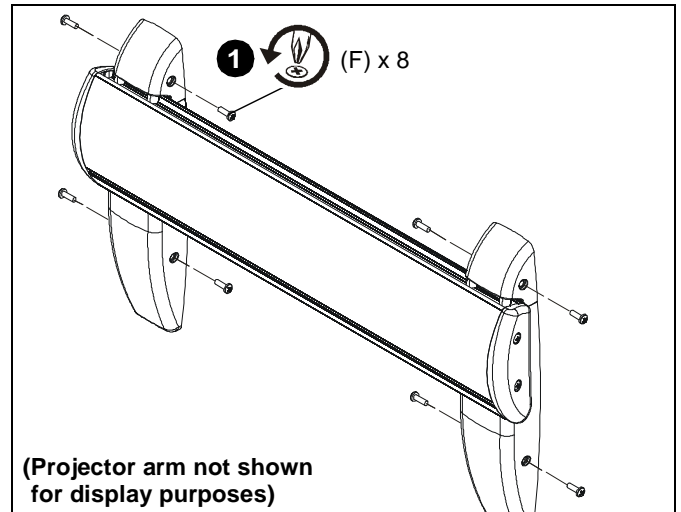

Figure 69
1. Remove eight #8-32 x 1/2" Phillips pan machine screws (F) from wall bracket covers. (See Figure 69)